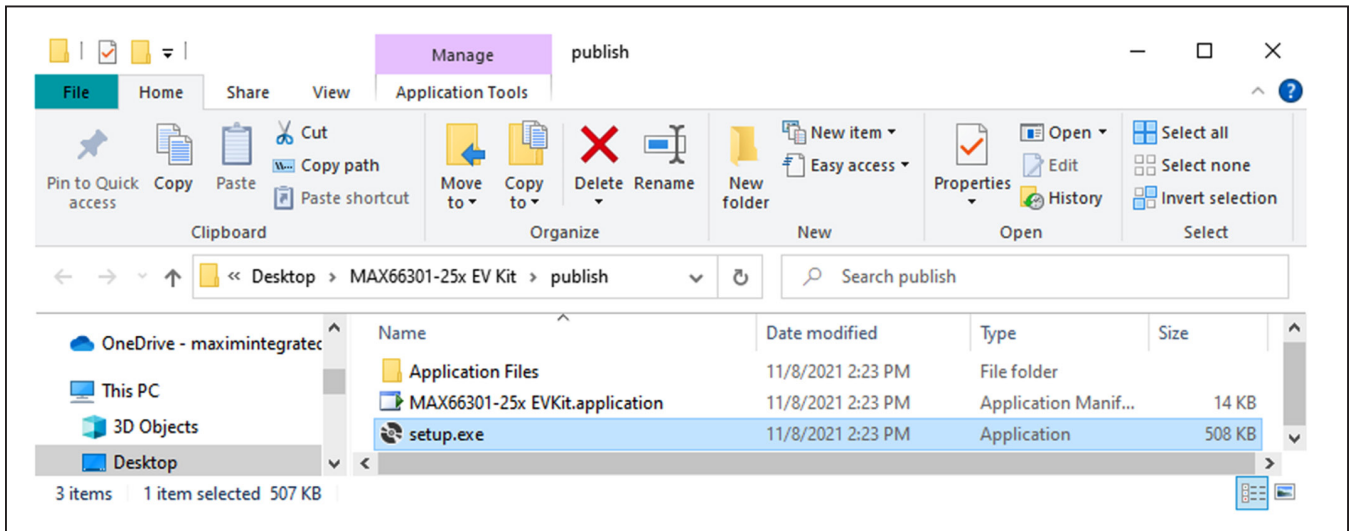

Figure 2. MAX66301-25x EV kit Setup
- 6) Open the **MAX66301-25x EV kit** folder, as shown in Figure 2, and double-click the **setup.exe**.